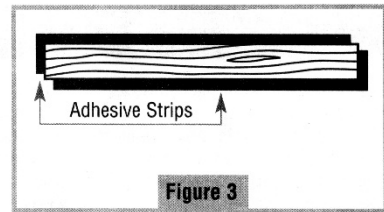

Figure 3
**Intricate Room Layouts** - Some installations with multiple rooms, closets, intricate layouts or alcoves may **require changing the direction of the planks**. This can easily be done in one of two ways. Use CF910 Film (3" wide x 9 lineal feet per roll) and cut the exact amount of film that you need. Or remove the adhesive strips from a plank and place them along the edge and end of the plank where the direction will change. Carefully position the adhesive strip centered along the edge and end of the plank without overlapping the strips. When done correctly, the plank(s) will have an adhesive strip on both edges and ends (Fig.3). Continue to install planks in the opposite direction as required.